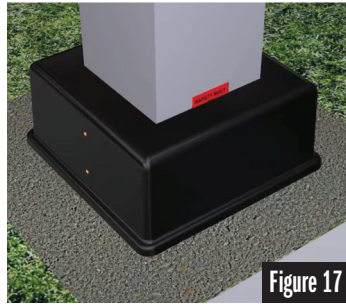

Figure 17
- Encase the bottom of the Base Pole with the Base Cover and secure the two halves with the (4) screws. See Figure 17.